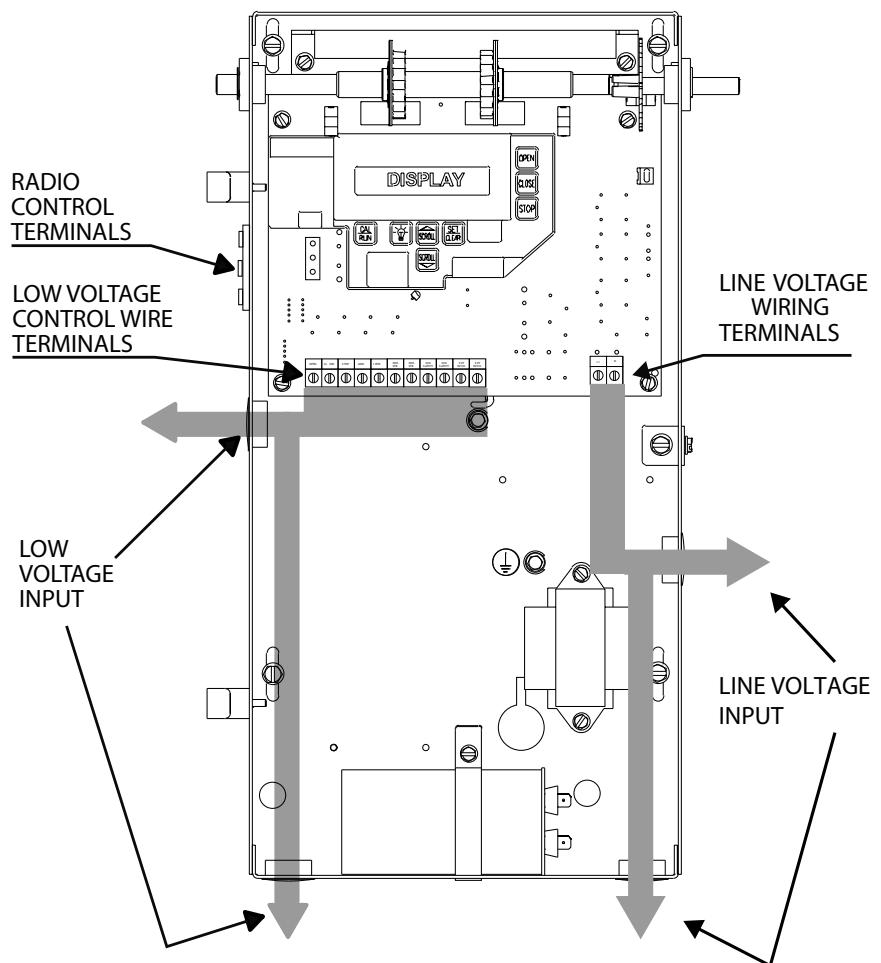

Fig.4C Wiring to TCM
1. Route control wiring as per Fig. 4C.
- NOTE:** If wiring connected to the I/O Warning Output applies low voltage class 2 voltages/currents, route the wiring with control wiring shown in left side of Fig 4C.
If wiring connected to this output applies line voltage, route the wiring as shown in right side of Fig 4C.